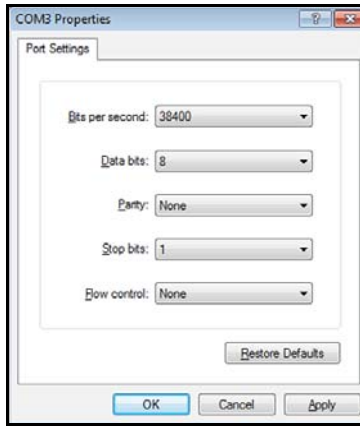

Figure 129: COM Properties
2. Start HyperTerminal and set up the communication link to match the Com port and RS232 settings of the PT878 (see Figure 129 on the next page).